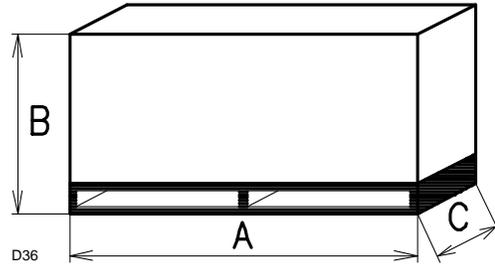

Fig. 1
- ▶ The packaging of the burner (Fig. 1) rests on a wooden platform that is particularly suitable for lift trucks.